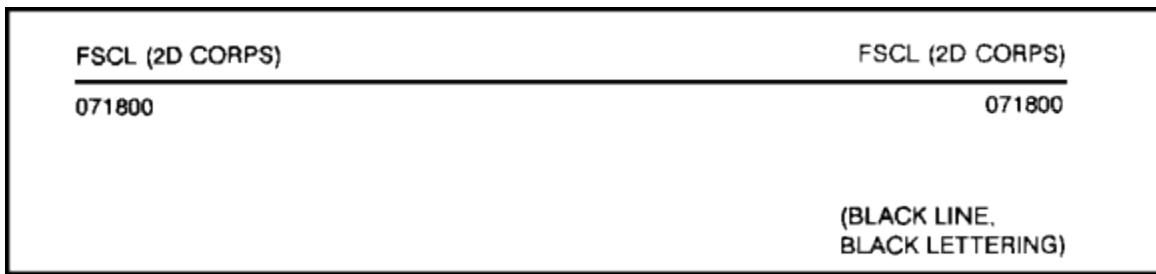

Figure 1-12. FSCL graphic symbol
- **Fire support coordination line (FSCL)**—line beyond which all targets may be attacked by any weapon system without additional coordination, as long as the effects of those fires do not affect personnel short of the line. Normally established on identifiable terrain by corps or independent divisions. The graphic symbol for the FSCL is shown in Figure 1-12.